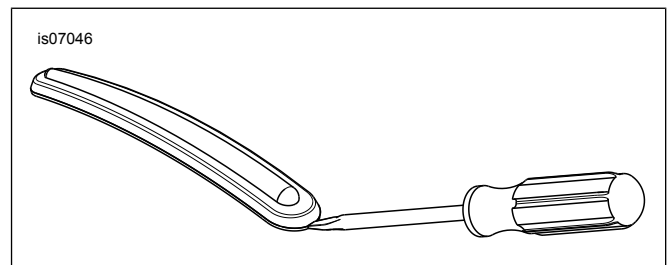

Figure 1. Remove Fender Trim Strip
- b. See Figure 1. Insert tip of screwdriver between chrome bezel and rubber trim strip.